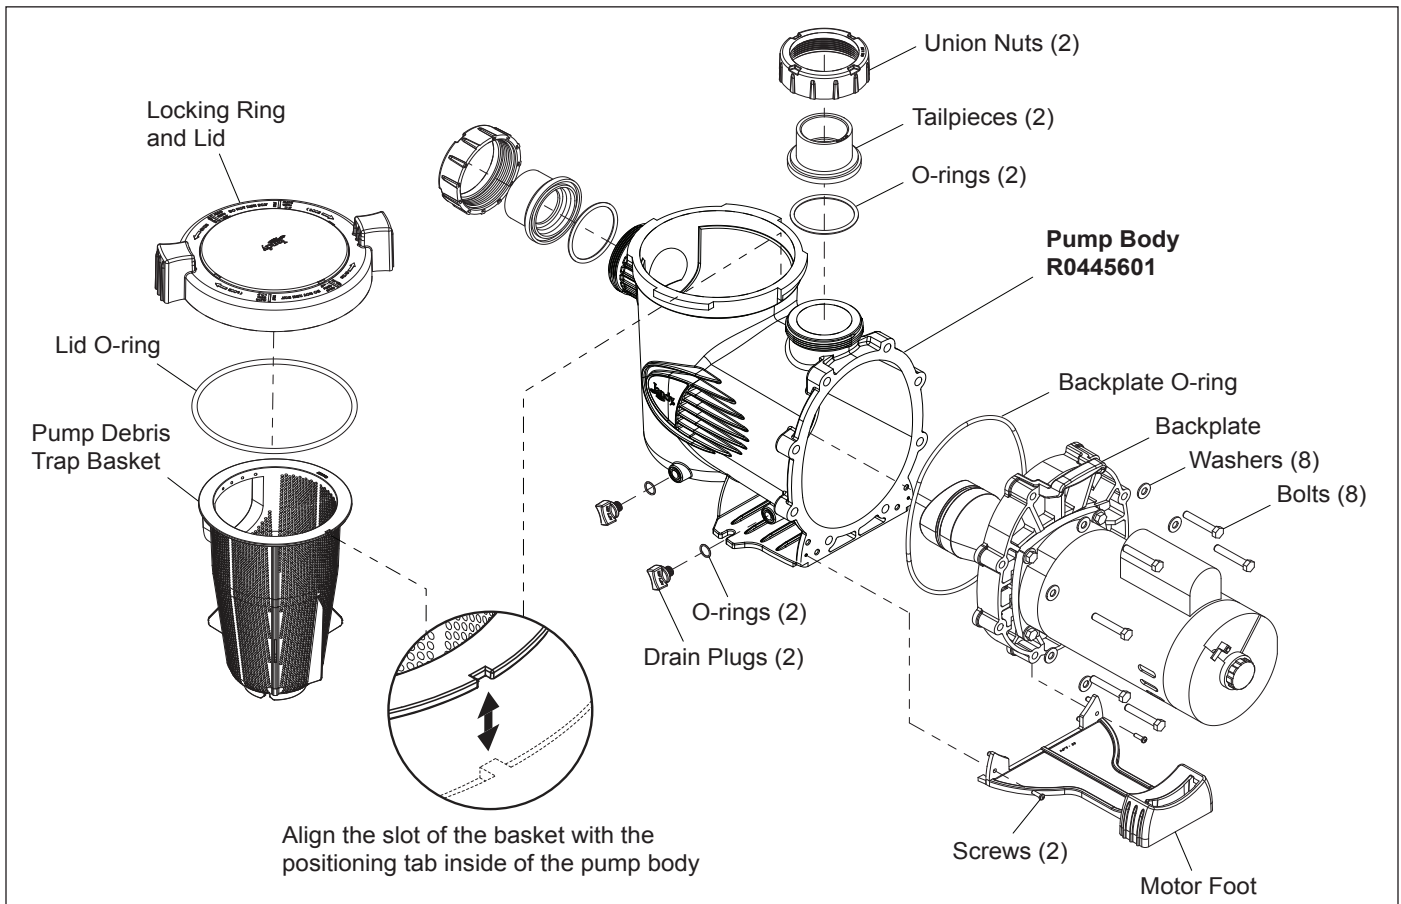

Figure 1. Pump Exploded View
This procedure contains information for the proper replacement of the pump body on the Jandy Pro Series Stealth™ Pump (SHPF/SHPM) and Jandy Pro Series Stealth WaterFall Pump (SWF) and Jandy Pro Series ePump™ (JEP). Refer to Figure 1 and the parts list to identify the part included in the replacement kit. ***These instructions must be followed exactly. Read them completely before starting the procedures.***
2. Close all necessary valves to prevent pool water from reaching the pump. Remove the drain plugs and o-rings to drain the water from the pump. See Figure 1.
5. Slide the diffuser into the inside centric hole of the pump body. While supporting the motor, start two (2) screws on opposite sides. (This will hold the motor in position while you start the other screws.) Start the remaining six (6) screws.
6. Tighten the eight (8) screws lightly in a crossing "X" pattern using a 9/16" wrench. Start with the inner (middle) four (4), then tighten the outer (top and bottom) four (4) to draw the backplate to the body in an even manner. When all the screws are snug, tighten in the same order to 15 ft-lbs of torque.
7. Place the pump debris trap basket assembly into the pump body. Make sure that the slot of the basket is aligned with the positioning tab inside of the pump body. If aligned properly, the basket will drop easily into place. **Do not force it into place.** See Figure 1.